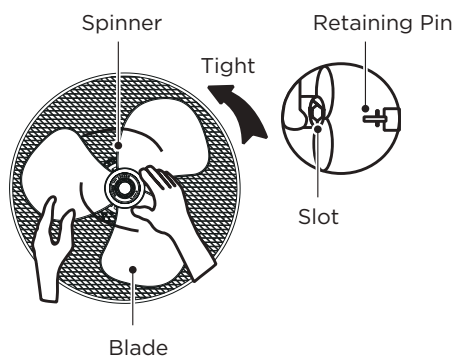

Fig.8
- 2 Insert the blade into shaft, and make sure the rotor shaft pin is fitted into groove of the blade. Turn the spinner counterclockwise to tighten the blade. (Fig. 8)